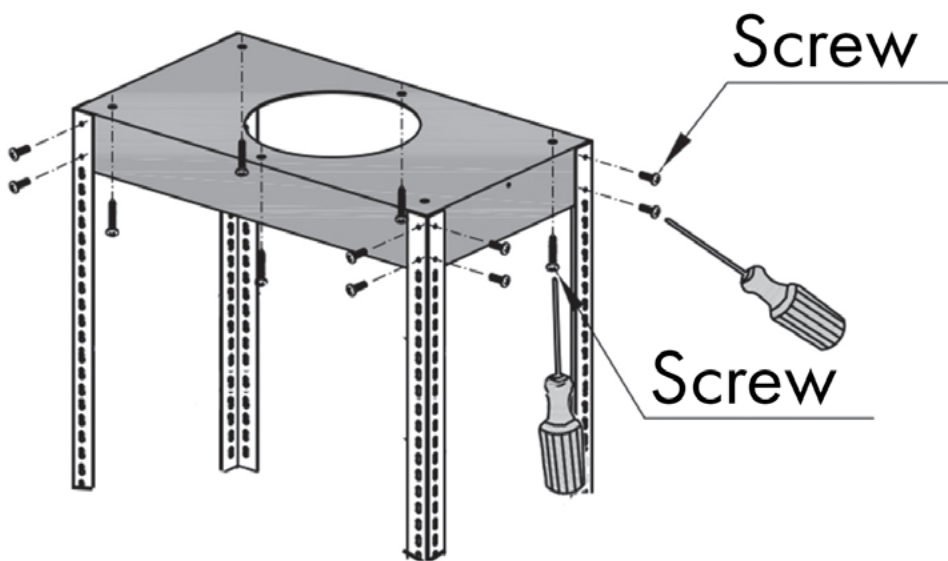

Figure 3
4. Use 16 screws (F) to attach the angle brackets to the four corners at the top of the chimney mounting bracket. Use a level to ensure the brackets are level. *Figure 3*